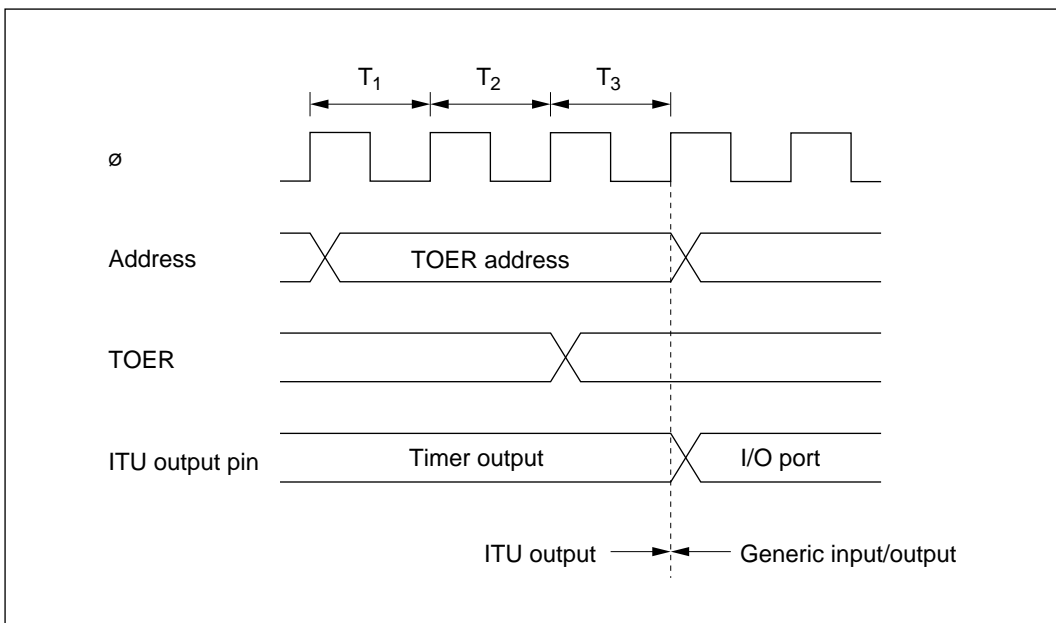

Figure 10-54 Timing of Disabling of ITU Output by Writing to TOER (Example)
Timing of Enabling and Disabling of ITU Output by TOER: In this example an ITU output is disabled by clearing a master enable bit to 0 in TOER. An arbitrary value can be output by appropriate settings of the data register (DR) and data direction register (DDR) of the corresponding input/output port. Figure 10-54 illustrates the timing of the enabling and disabling of ITU output by TOER.